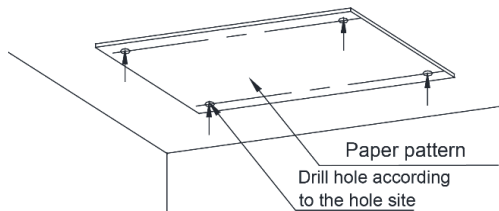

Fig 1
1. Stick the reference cardboard on the installation position; drill 4 holes according to the hole site on the cardboard as shown in fig 1.